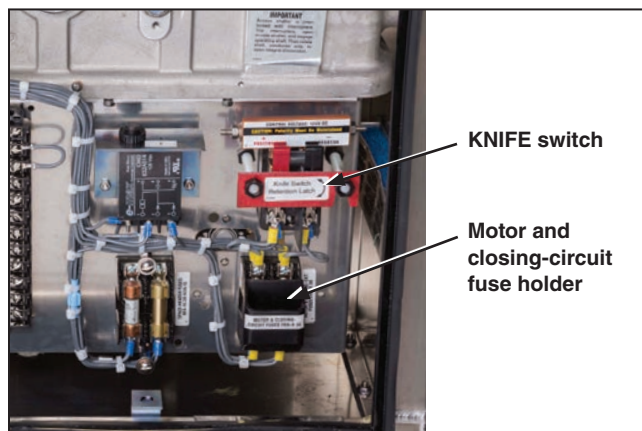

Figure 37. The motor and closing-circuit fuse holders and the control source KNIFE switch.
- On the open and close motor contactors and surge suppressor all electrical connections are secure and all contactors and surge suppressors are fully seated in their mounts (See Figure 37 on page 31.)
- STEP 8.** Insert the motor and closing-circuit fuse holders. Then, close the control power KNIFE switch. Figure 37.